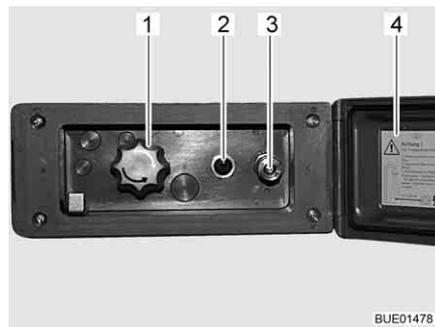

Fig. 123 External shower connection point
- Unlock and open the cover (Fig. 123,4).
- Attach hose of the external shower to the quick closure (Fig. 123,3).
- Switch on the water pump using the switch (Fig. 123,2).
- Adjust the water temperature with the rotary knob (Fig. 123,1) as desired.
- Switch off the water pump using the switch (Fig. 123,2).
- Close the cover (Fig. 123,4) and lock with key.
- Turn knob (Fig. 123,1) to the centre position.